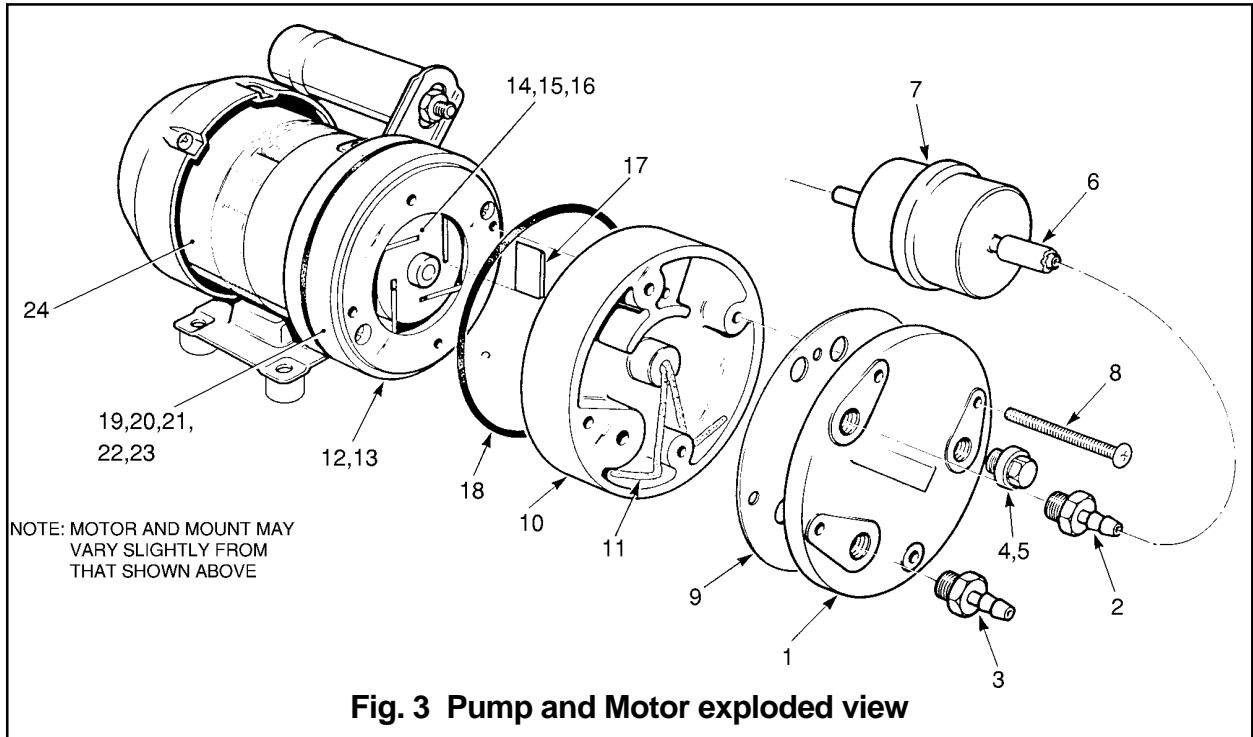
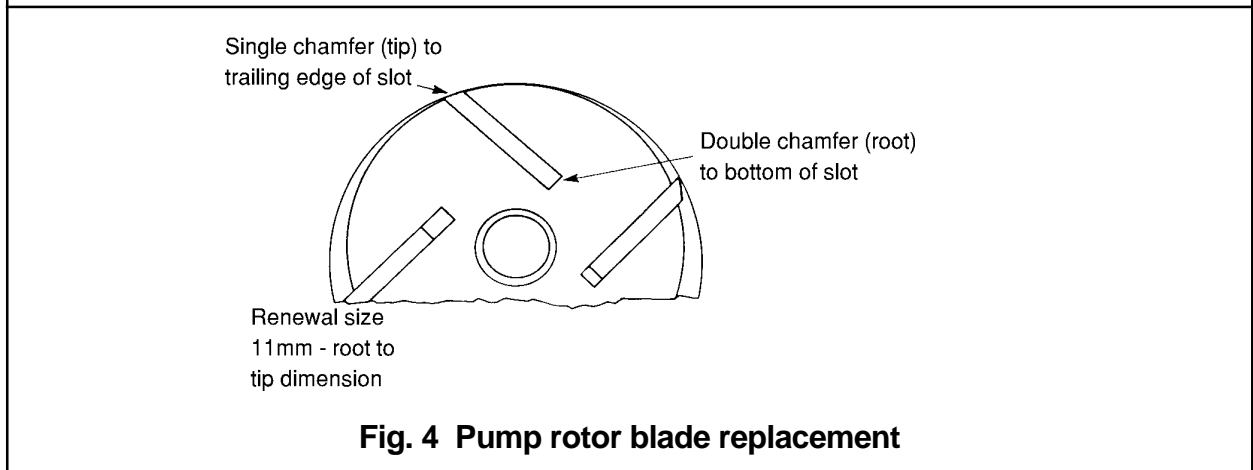

Fig. 3 Pump and Motor exploded view
Fig. 4 Pump rotor blade replacement
The pump oil reservoir (item 10, Fig. 3) and its front cover (item 1, Fig. 3) can be removed for cleaning and blade replacement purposes. Beyond this point, disassembly should only be undertaken by an Eschmann Service Engineer. If a situation occurs where this is necessary, in the absence of Eschmann personnel, advice should first be sought from Eschmann Equipment or their local representative.
5.7 To gain access to the pump/motor unit, disconnect the electrical supply to the unit and remove the suction unit top cover. In order to carry out pump disassembly the pump/motor unit must be removed from the suction unit baseboard by removing the fixing screws from the motor feet. Now refer to Fig. 3 and proceed as follows:
- i. Remove the oil filler plug (4) and drain all the oil from the pump.
- ii. Mark with a file the relative fixed positions of pump stator (12), oil reservoir (10) and end cover (1).
- iii. Release and extract the four long screws (8) from the oil reservoir end cover (1), then separate the end cover and oil reservoir from the pump stator.
- iv. Pump blades will eventually wear after a long period of use; the minimum root to tip dimension which a blade should be allowed to reach is 11mm (Fig. 4). Note the facing positions of the four pump blades then extract each one, examine it for wear or signs of damage and if replacement is necessary change all four blades at the same time (refer to Fig. 3). Clean out rotor slots then clean and
5.8 The exhaust filter/silencer (item 7, Fig. 3) which serves the double purpose of arresting oil mist and reducing exhaust noise cannot be serviced. Whenever the pump is disassembled for cleaning or blade inspection, or if it is noted that the filter/silencer has become choked or fouled, it should be renewed as a complete item. If a filter/silencer is allowed to remain in this condition, this could also cause loss of flow.